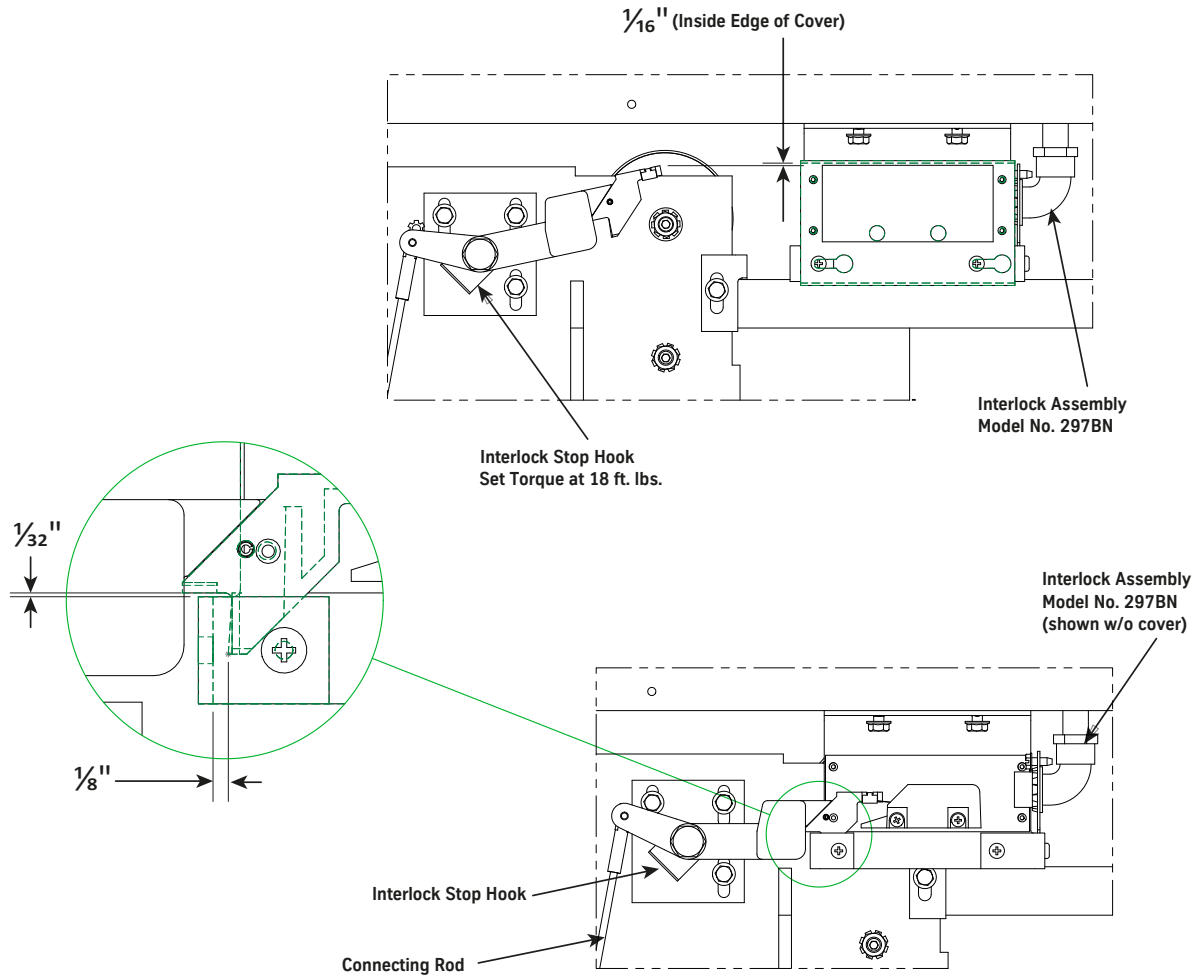

Figure 21 - Single Speed Interlock Adjustment
3. Close the doors, and verify the following. See Figure 21 on page 7-22.